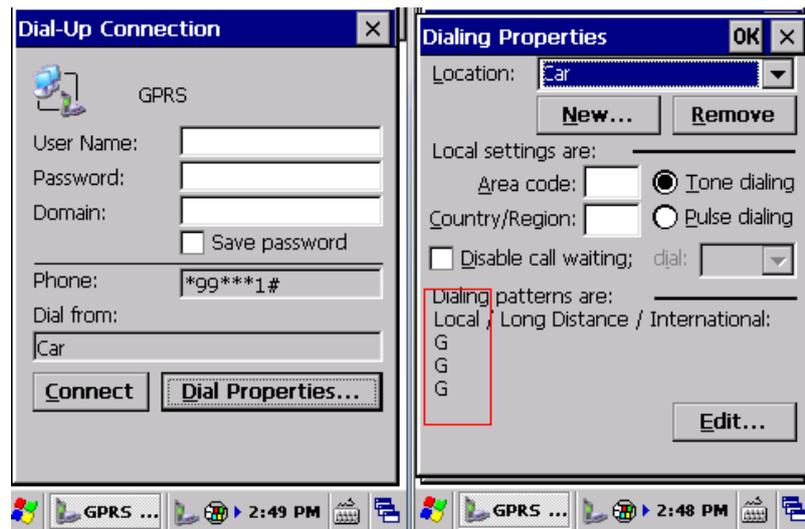

Figure4.4-9 Dial-Up Connection Figure4.4-10 Dialing Properties
6) Double click the GPRS icon; in *Dial-Up Connection* page, keep *User Name*, *Password* and *Domain* blank, and then click *Dial Properties* (Figure4.4-9); choose *Location* as *Car* and then click *Edit* (Figure4.4-10); Fill the 3 edit boxes all with letter *G* and then *OK* (Figure4.4-11). Click *OK* on *Dialing Properties* (Figure4.4-12), and then back to desktop.